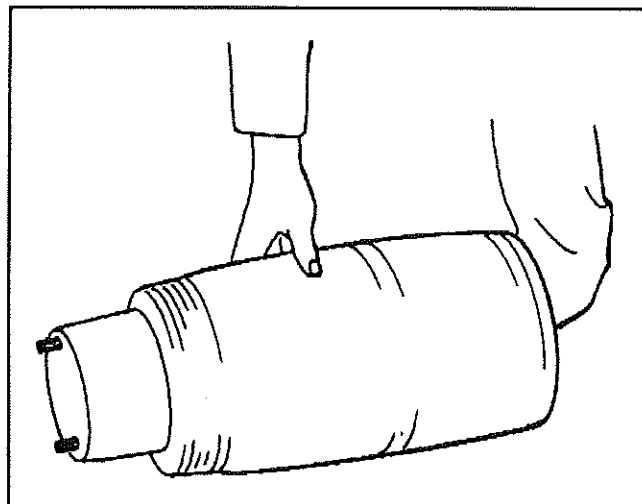

FIG. 11
6. When bead is loosened around the entire surface of the lower retainer, the retainer can be forced into the bellows and removed through the upper opening (see fig. 11).